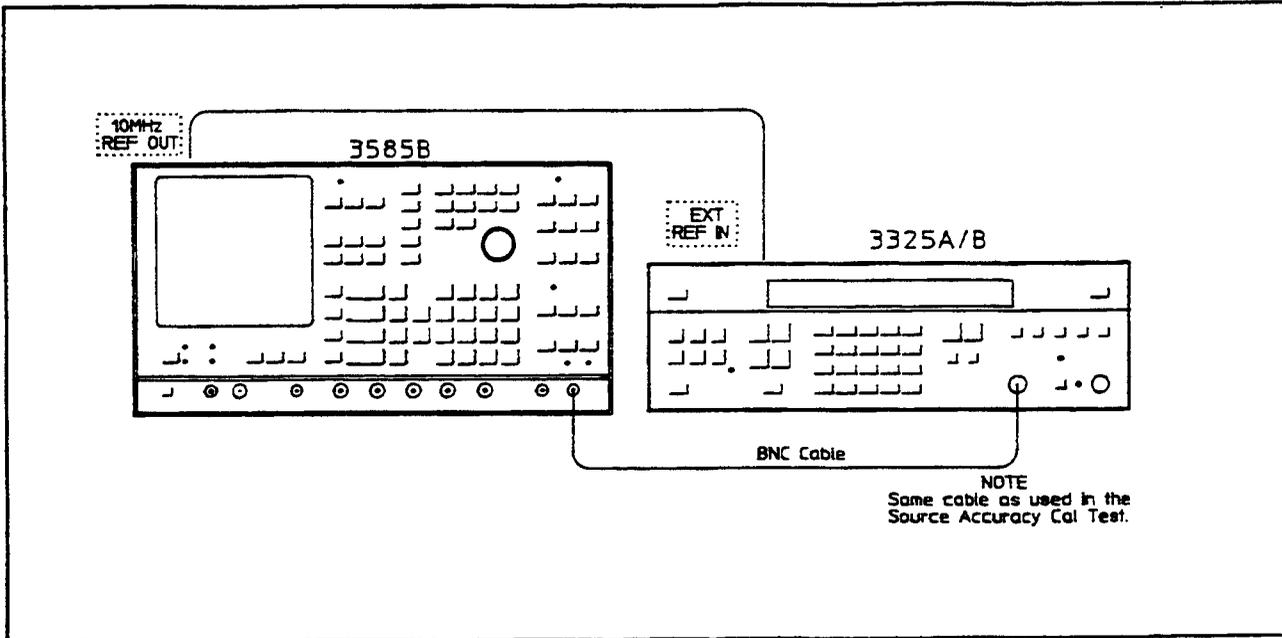

Figure 4-8a.
- a. Connect the 3325B output to the 3585B 50Ω input using the same cable used as in the source accuracy performance tests. See Figure 4-8a.